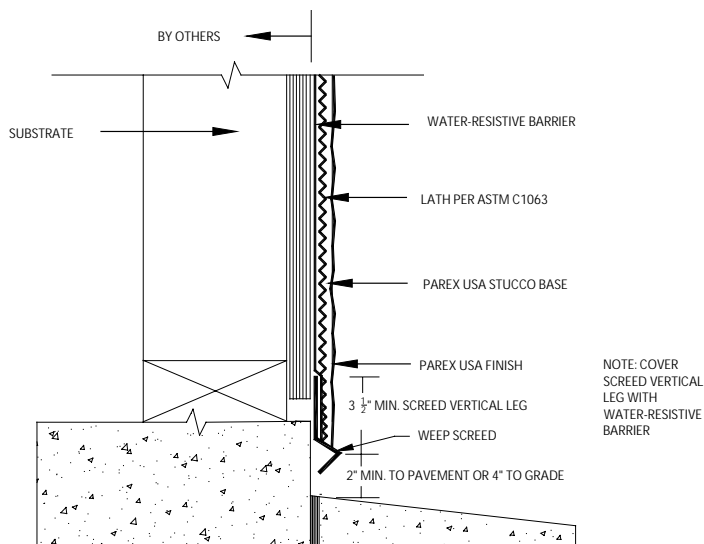

Fig 8.1
- Raw earth, grade shall be not less than 4 in. (102mm) below the nose of the weep screed, paved surfaces shall be not less than 2 in. (51mm) below the nose of the weep screed. (Fig. 8.1).